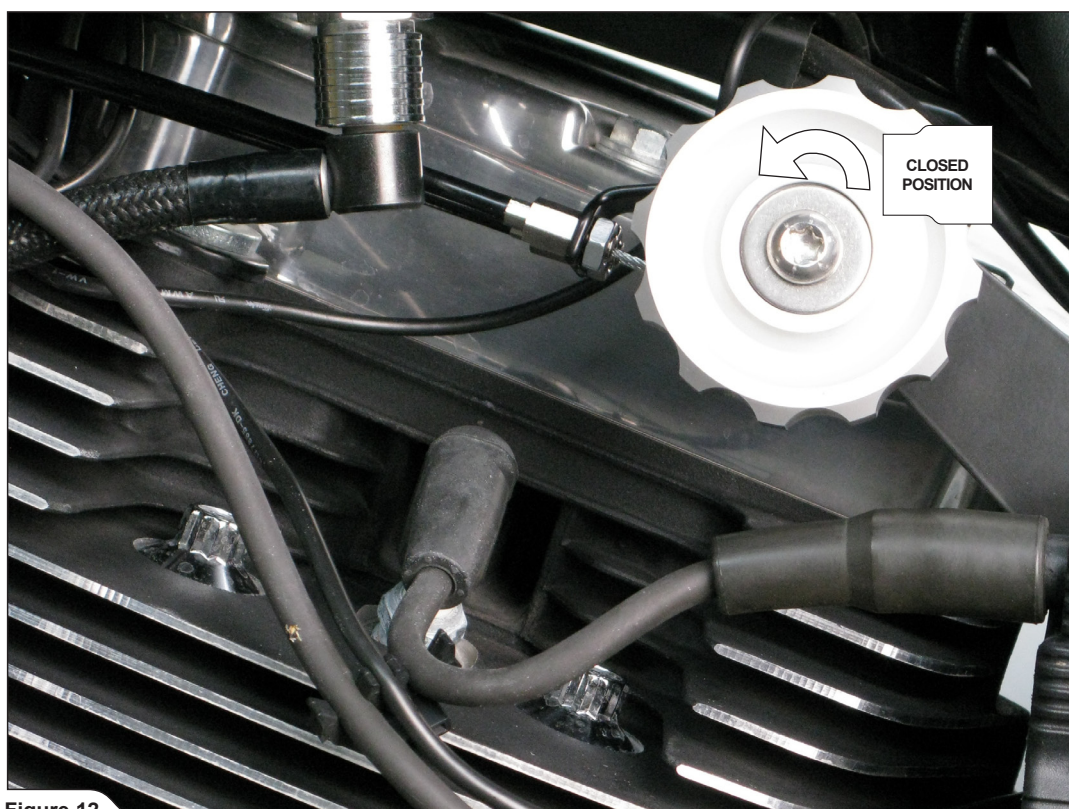

Figure 12
8. Attach the cables onto both valve wheels and adjust the cable adjusters in such a way, that when switch is in closed position, the valves are fully closed. Tighten the cable adjusters' nuts to the specified torque (**Figure 12, 13**).